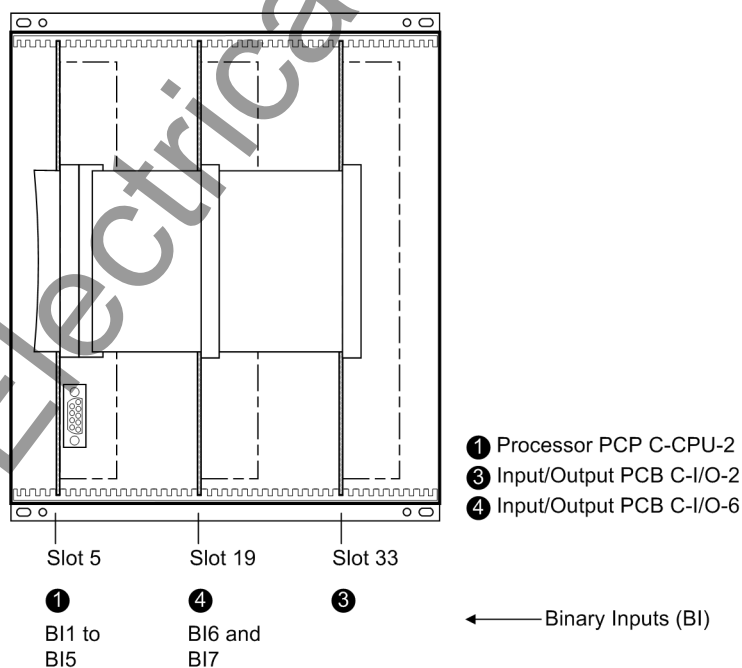
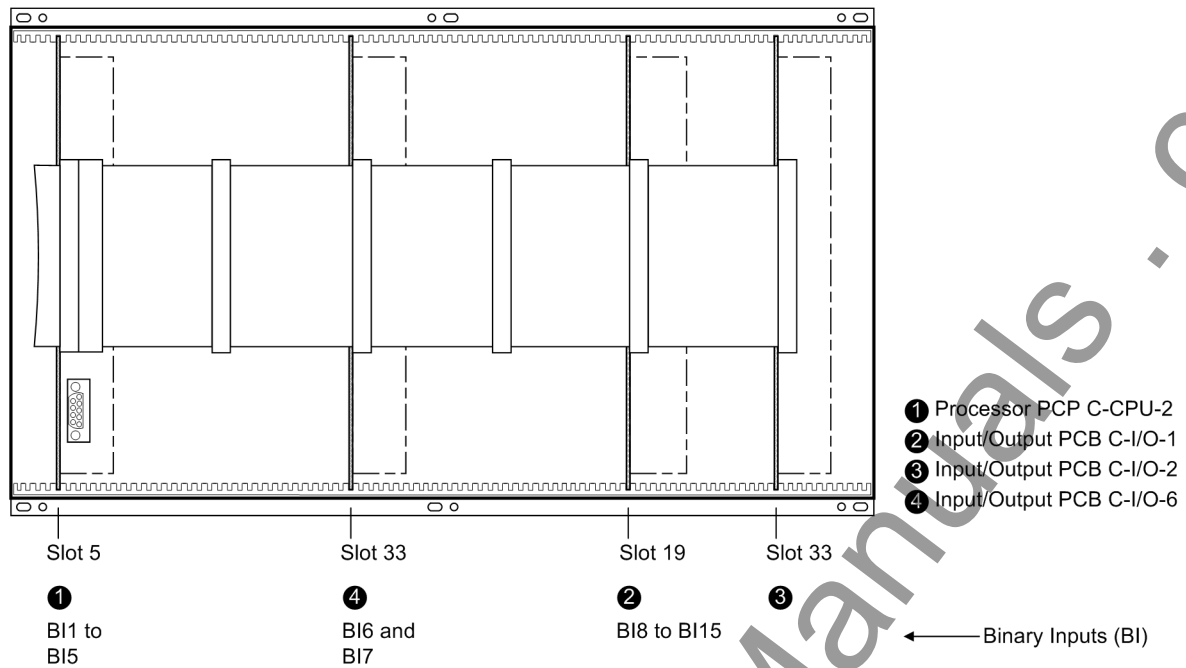
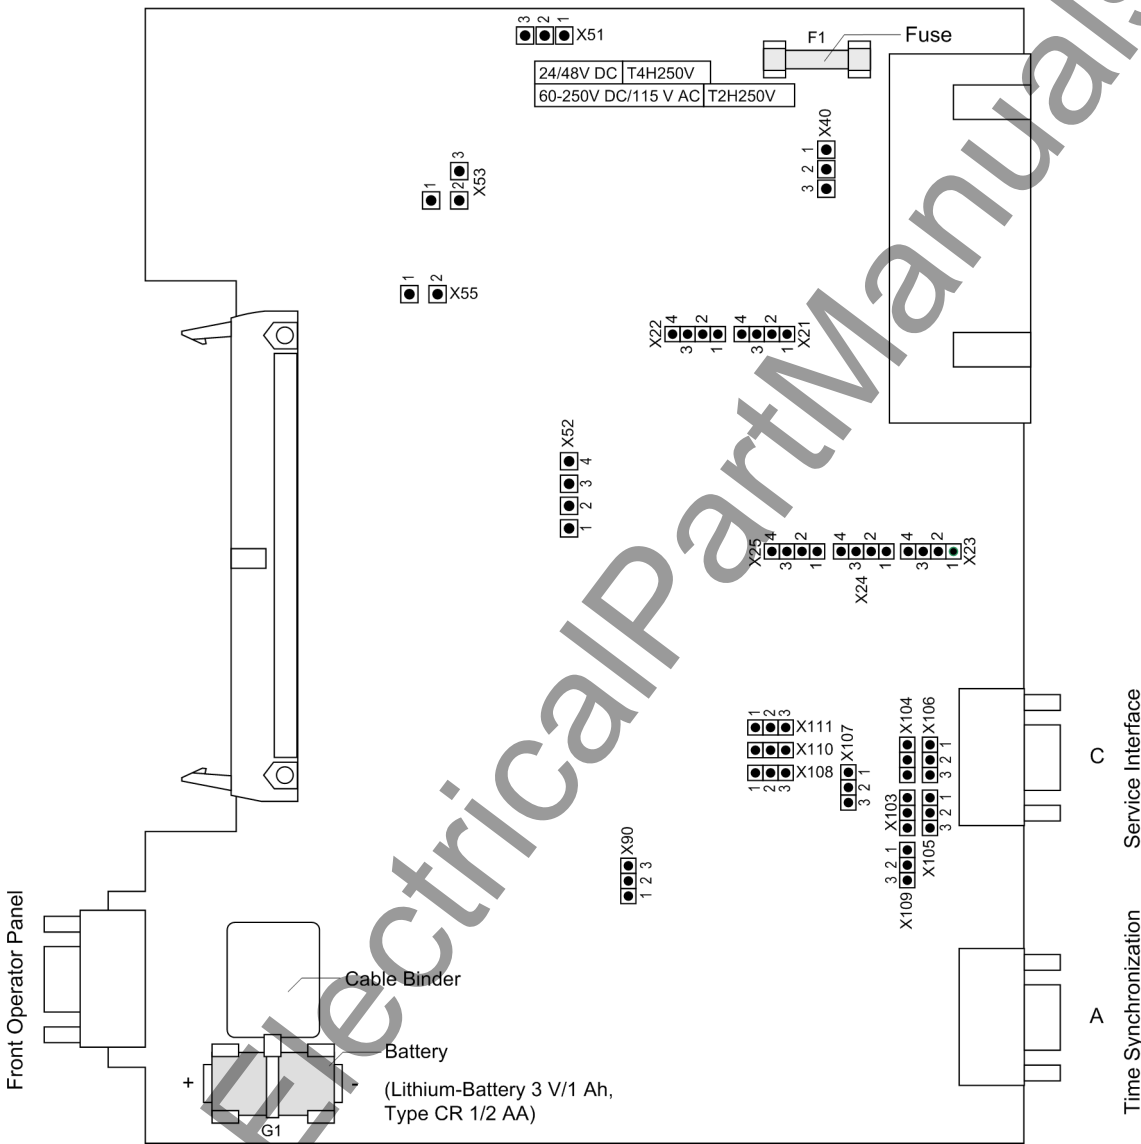

Figure 3-1 Front View of a 7UM621/623 (Housing Size $1\frac{1}{2}$) after Removal of the Front Cover (Simplified and Scaled Down)
Figure 3-2 Front view of a 7UM622 (housing size 1/1) after removal of the front cover (simplified and scaled down)
Figure 3-3 Processor Board C-CPU with Jumper Settings Required for the Board Configuration, of the Battery and Miniature Fuse
Spare parts may be the backup battery that maintains the data in the battery-buffered RAM when the voltage supply fails, and the miniature fuse of the internal power supply. Their physical location is shown in Figure 3-3. The ratings of the fuse are printed on the board next to the fuse itself. When replacing the fuse, please observe the guidelines given in the SIPROTEC 4 System Manual /1/ in the chapter „Maintenance“ and „Corrective Action / Repairs“.
- Disconnect the ribbon cable between the front cover and the C-CPU-2 board (No. 1 in Figures 3-1 and 3-2) at the front cover side. To disconnect the cable, push up the top latch of the plug connector and push down the bottom latch of the plug connector. Carefully set aside the front cover.
- Disconnect the ribbon cables between the C-CPU-2 board (1) and the I/O boards (2) to (4), depending on the variant ordered).
- Check the jumpers in accordance with Figures 3-3 to 3-8 and the following information, and as the case may be change or remove them.
The allocation of the boards for housing size $1\frac{1}{2}$ is shown in Figure 3-1 and for housing size $1\frac{1}{4}$ in Figure 3-2.
Mounting locations of modules are shown in Figures 3-1 to 3-2.